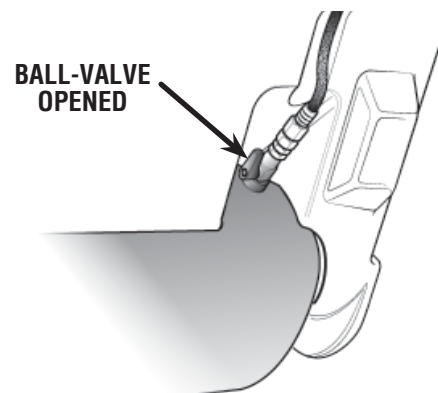

Fig. 11
- Open the ball-valve at the base of the inflation hose to begin inflating (Fig. 11). You may adjust air flow by turning the ball valve between 0 – 90 degrees.